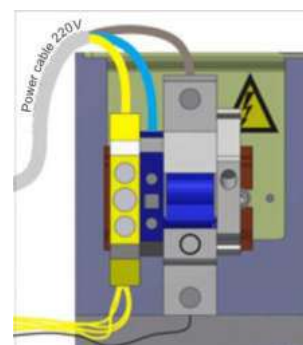

Fig. 22- Connection of power supply cable
a) Power supply cable ~230 V to be connected (Fig. 22):
- Neutral (N) to be connected to terminal ~230V (N);
- Earth (PE) to be connected to earthing terminal (PE)